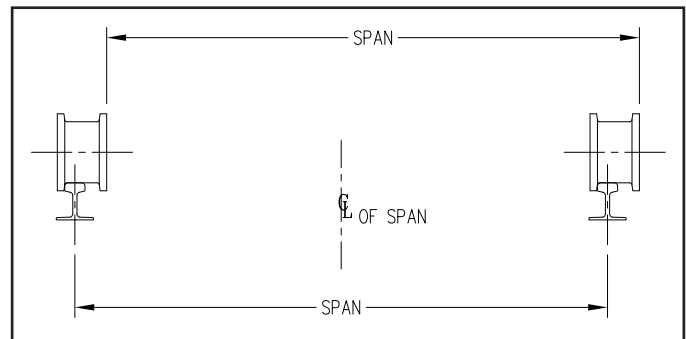

Figure 4. Checking Wheels
3. To check the distance between the trucks, push all truck wheels in one direction. The distance from the outside of the wheel on one side of the span to the inside of the wheel on the other side of the span should equal the span length, see figure 4. The tolerance on this distance is $\pm 1/32$ "